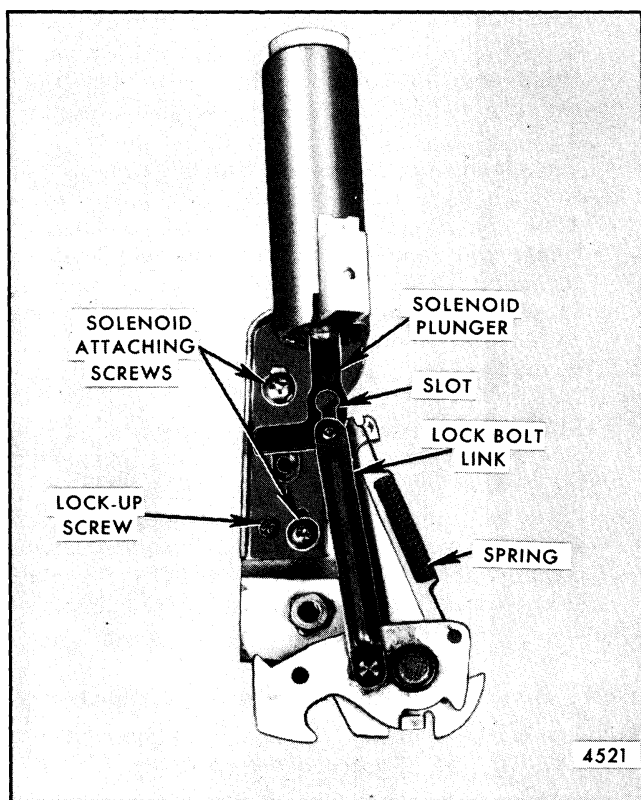

Fig. 9-45-Front Seat Back Electric Lock Solenoid and Support Assembly - All Two-Door Styles with Standard Full Width or 60/40 Seats
2. Remove small position lock screw and two solenoid support-to-lock attaching screws; then, disengage solenoid plunger bar from lock link (Fig. 9-45) and remove assembly from lock.
3. To install solenoid and support assembly, engage solenoid plunger bar to lock link; then, install loosely two solenoid support-to-lock attaching screws (Fig. 9-45). With lock hook tight against stop tab (see Fig. 9-45) extend solenoid plunger bar all the way out of solenoid; then, adjust solenoid support until the lock link rivet just contacts bottom of slot in solenoid plunger bar (see Fig. 9-45) and tighten securely solenoid support attaching screws.